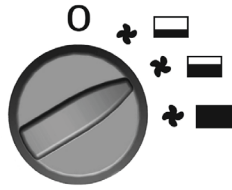

FIG. 2
- **Fig. 2** - Medium capacity